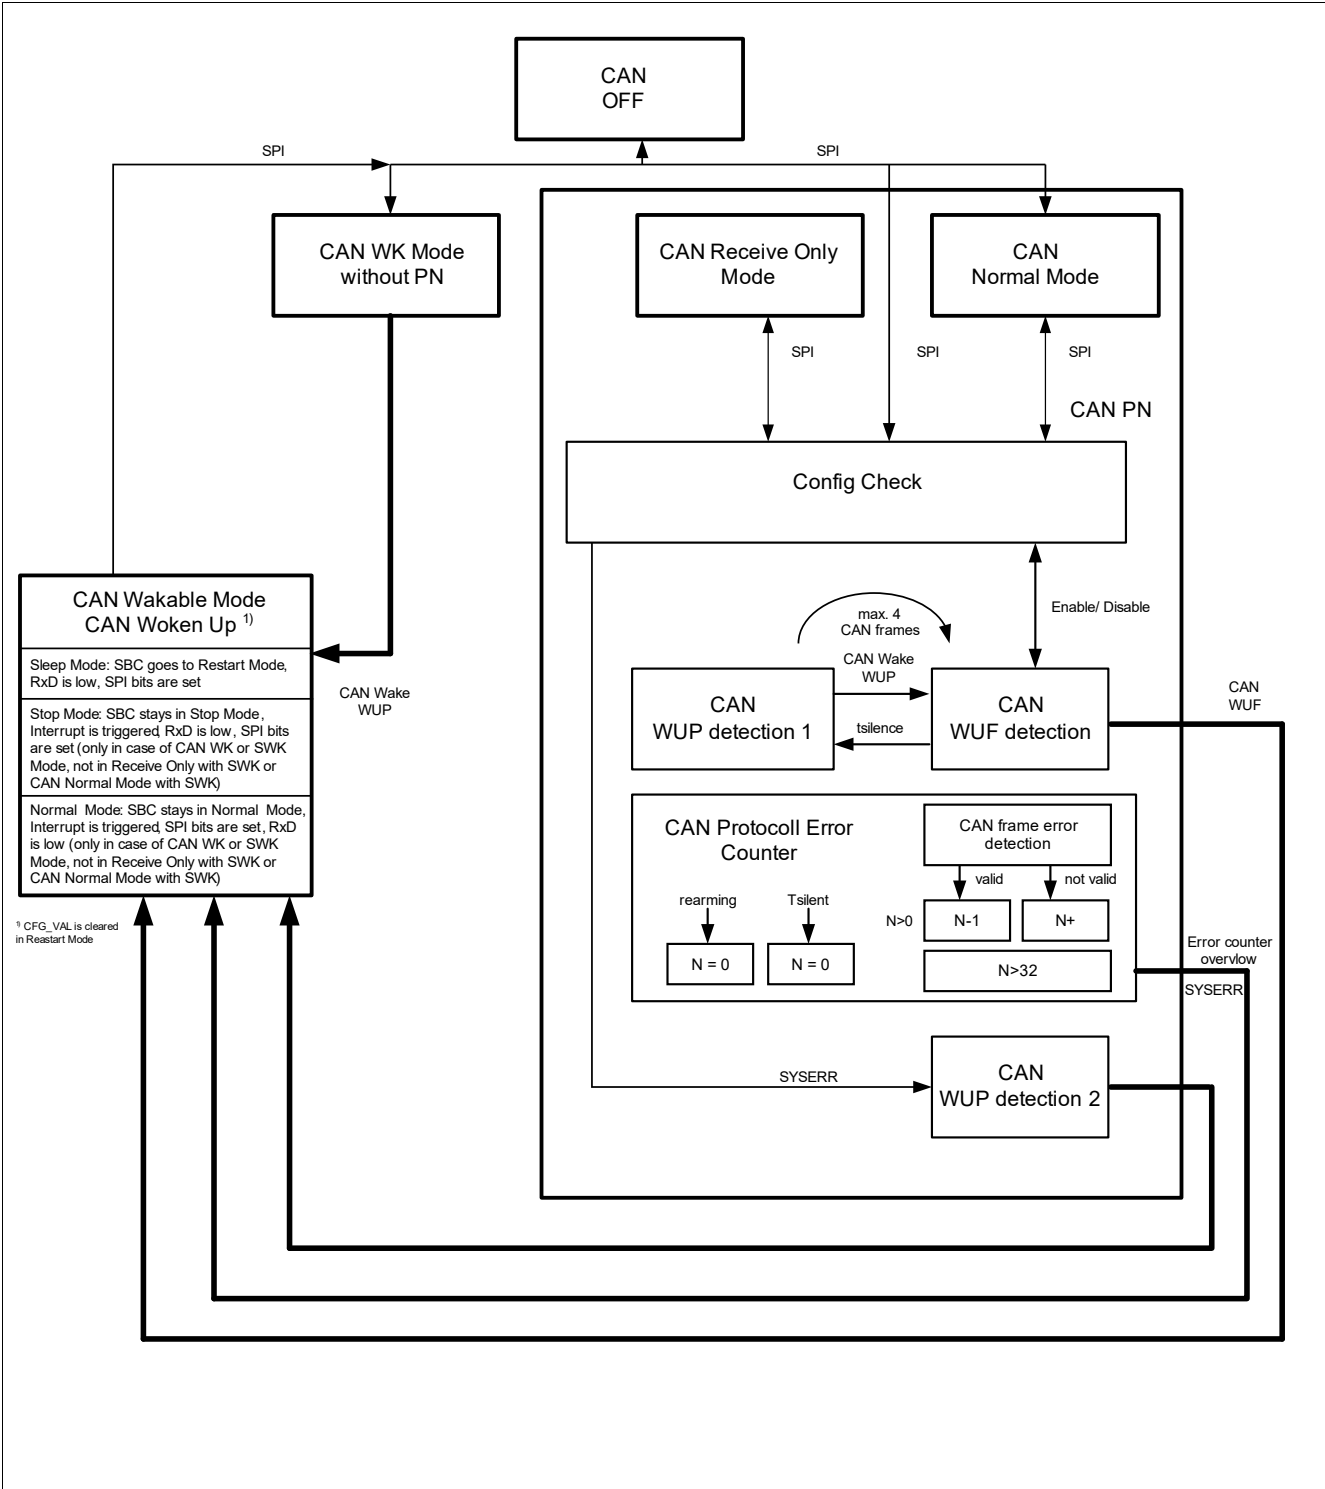

Figure 14 CAN Selective Wake State Diagram
*Note: It is possible that WUF and WUP bits are set at the same time, if a WUF causes a wake-up out of SWK, by setting the interrupt or by restarting out of SBC Sleep Mode. The reason is because the CAN has been in WUP detection 1 state during the time of SWK mode (because of t_{SILENCE}). See also **Figure 14**.*
The SWK_SET bit is set to signalize the following states (see also **Figure 14**):